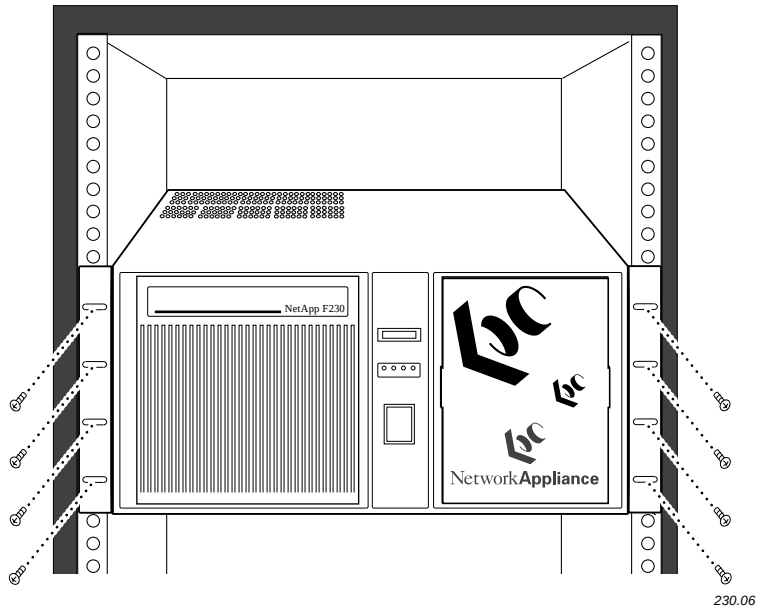

**Figure 2-2. Attaching the filer to the equipment rack**
4. Insert screws into the mounting holes on the flanges of the filer and the mounting rails of the rack as shown in Figure 2-2.